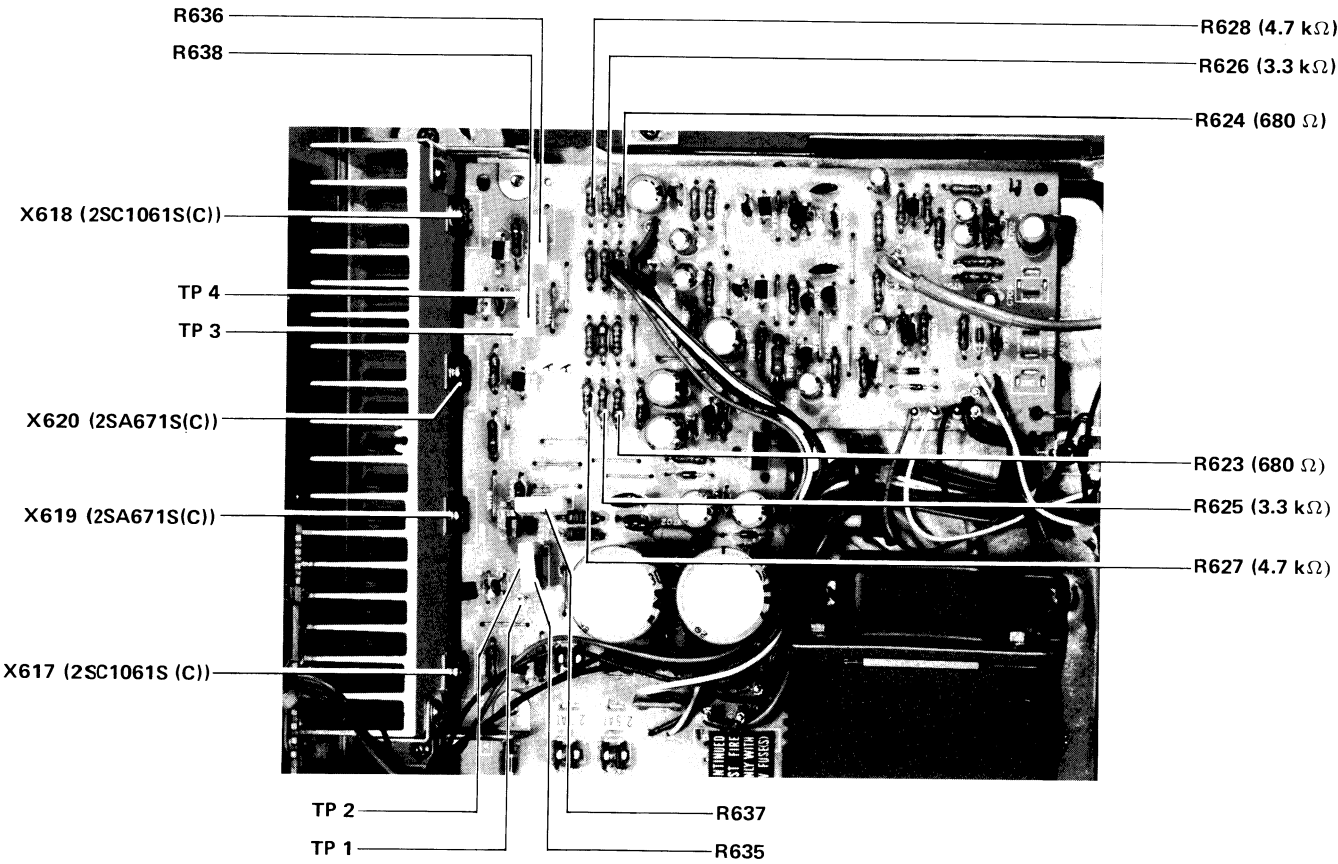

Fig. 26
1. Be sure that the following resistors are connected to TXX-131 P.C. Board Ass'y as shown in Fig. 26.